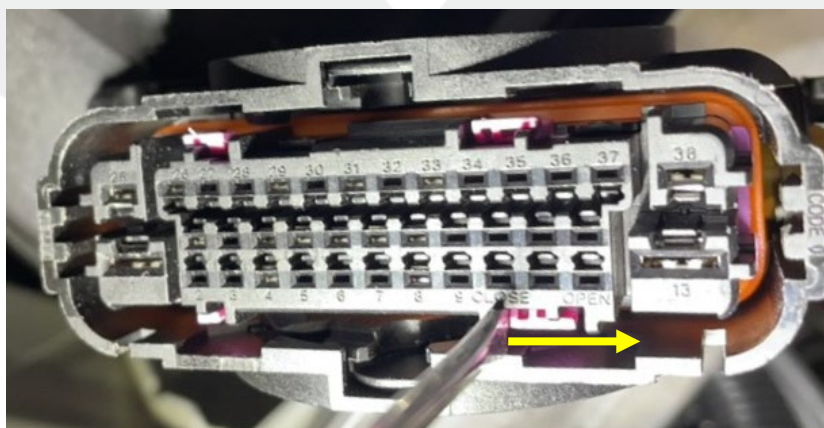

Figure 10
12. Use a pick to slide the large locking tab of connector X151 from “CLOSE” to “OPEN” (Figure 10).